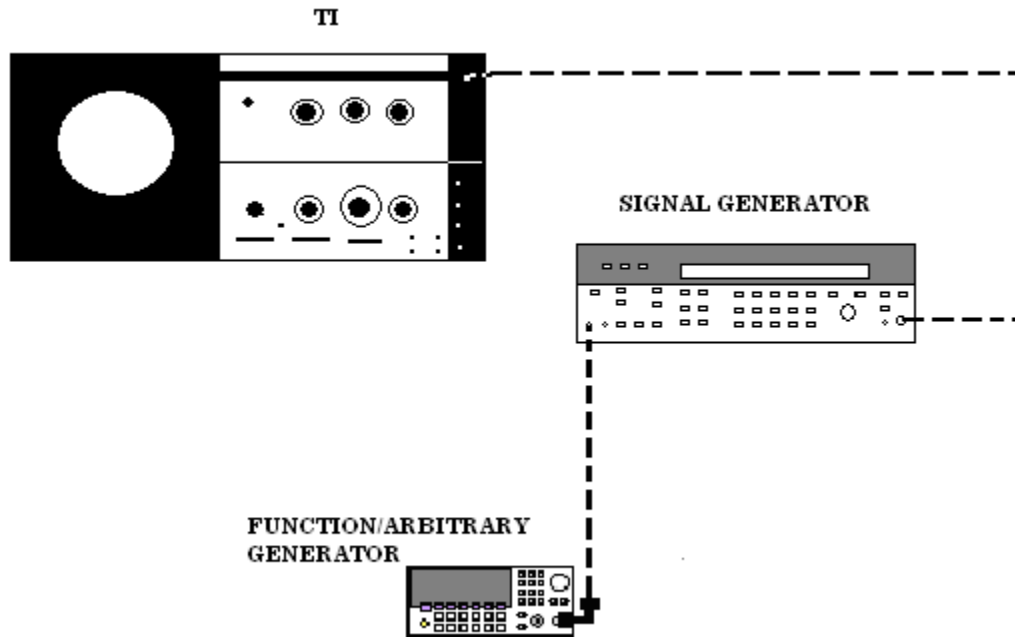

Figure 5. Scan time accuracy - equipment setup.
- (1) Connect equipment as shown in figure 5.
- (4) Adjust signal generator frequency and amplitude controls until signal display is aligned with far left graticule line on display. Record signal generator frequency.
- (5) Increase signal generator frequency 80 MHz above frequency recorded in (4) above. Signal display will move within ± 0.24 division of the eighth graticule line to the right.
- (6) Set **BANDWIDTH** switch to **3 kHz** and **SCAN WIDTH PER DIVISION** switch to **.05 MHz**.
- (7) Set IF plug-in **SCAN TIME PER DIVISION** switch to **10 ms**.
- (8) Connect equipment as shown in figure 5.
- (9) Set signal generator controls as necessary for external modulation.
- (10) Adjust signal generator output to 60 MHz and adjust function/arbitrary generator output to 50 kHz.
- (11) Adjust signal generator and function/arbitrary generator amplitude controls until a signal pip is displayed every 50 kHz across the display.
- (12) Adjust **FREQUENCY** and **FREQUENCY FINE TUNE** controls until a 50 kHz signal pip is aligned with far left graticule line on display. A 50 kHz signal pip will appear within ± 0.8 division of eighth graticule line to right.